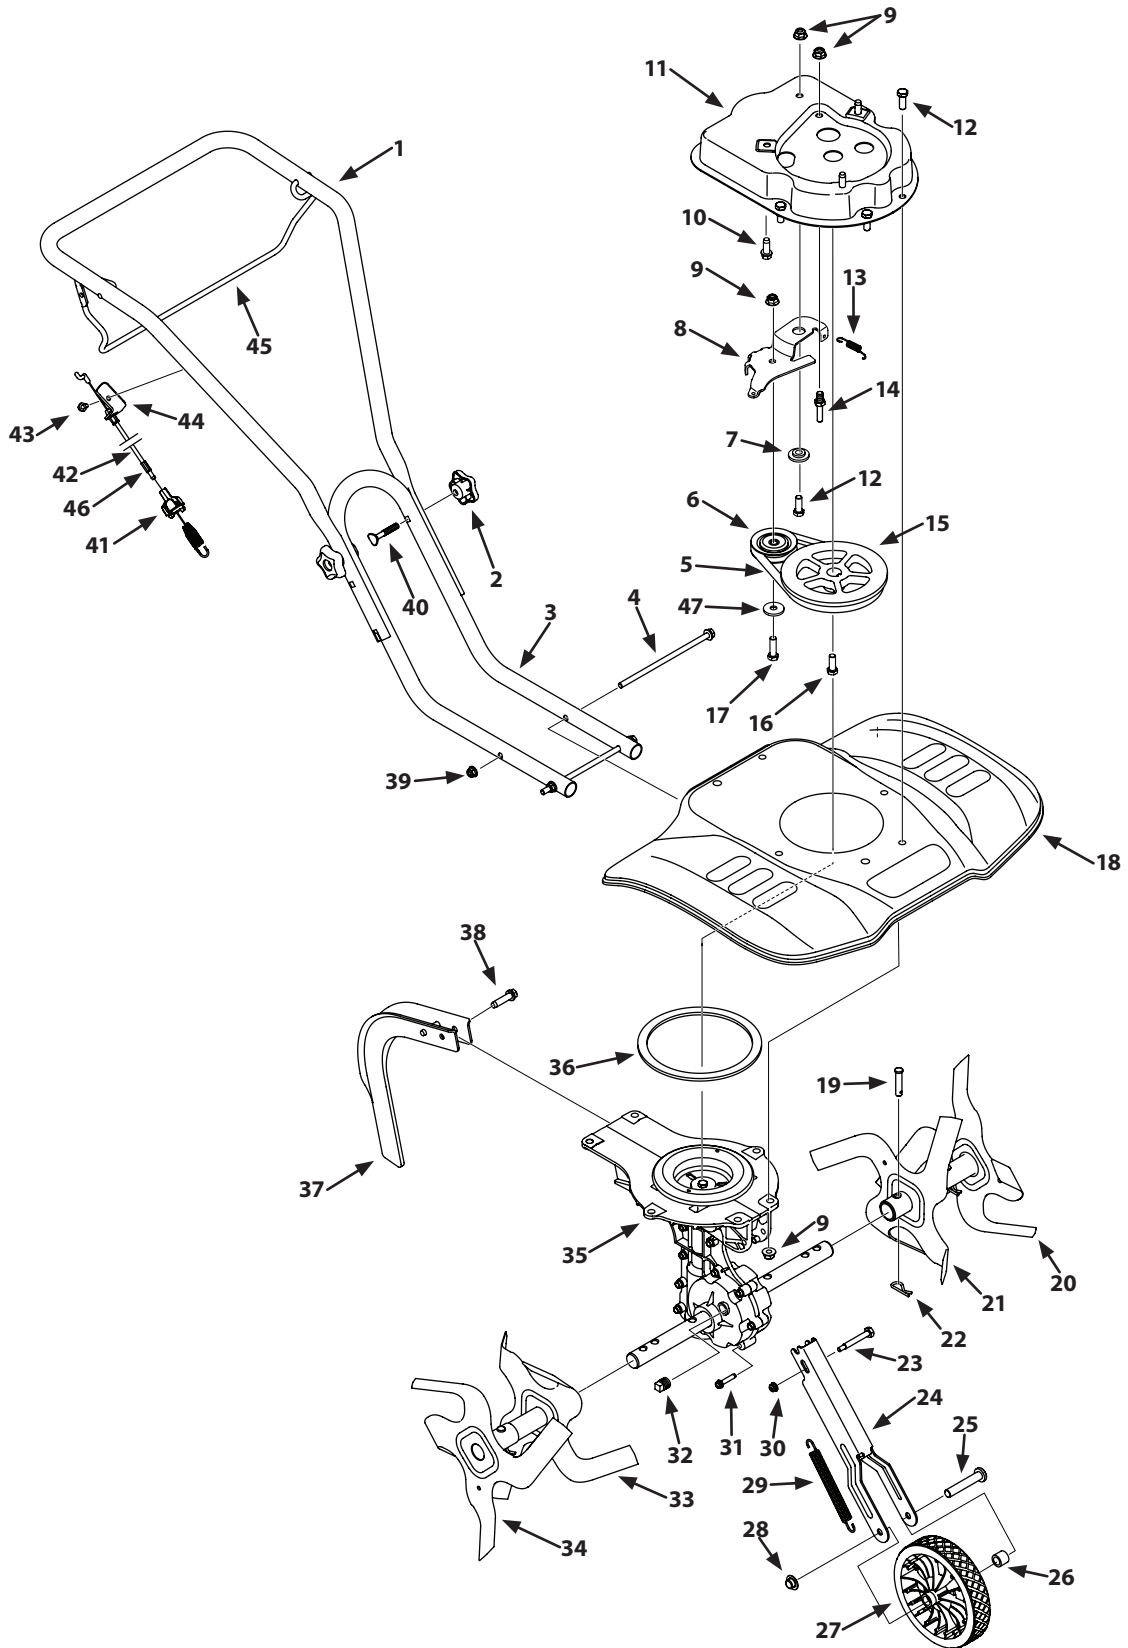

**Figure 7-2**
2. Loosen the lock nut shown in Fig. 7-2.
3. Unloop the belt from the pulleys. See Fig. 7-2.